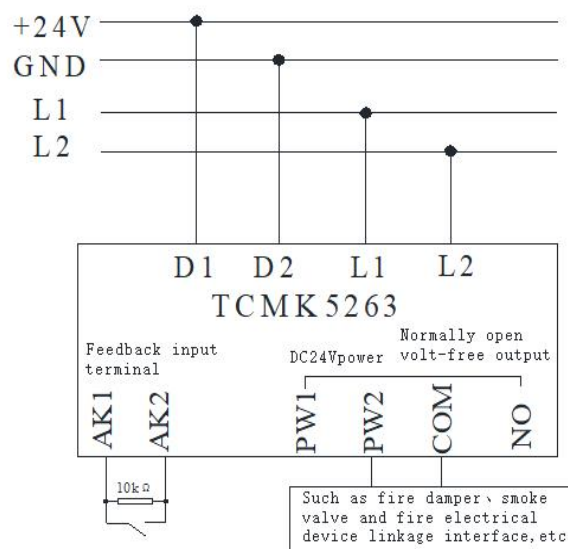

Fig.4
- 8.2 Sketch for controlling low-voltage and low-power including fire damper, exhaust valve, electrical fire monitoring devices: fig. 4:
Fig. 4 sketch for controlling low-voltage and low-power device